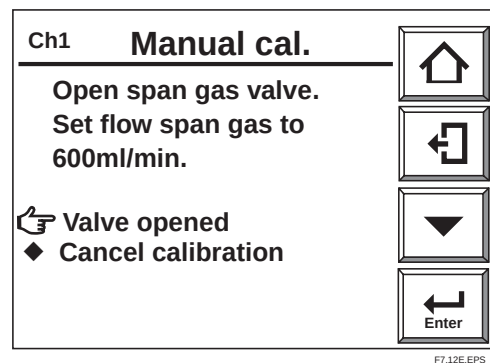

Fig. 7.12 Span Calibration start
- 7) Touch [Next] and touch the [Enter] key. The display in Fig. 7.12 appears. If wiring and piping for autocalibration has been done, span gas will start flowing at this point.